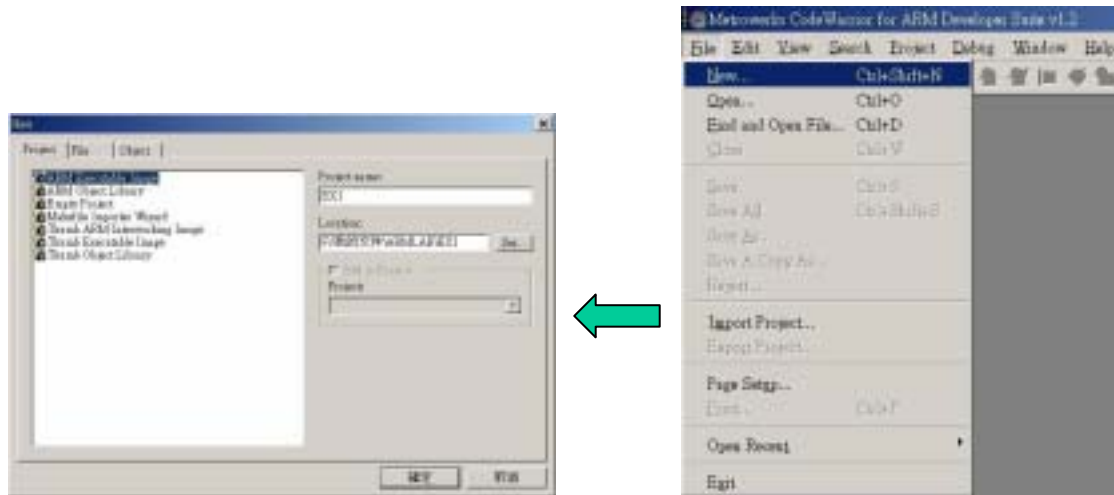

Figure 3 New dialog box
2. Select **File** → **New** to create a new project (Figure 3).
- (1) Select ARM Executable Image under the Project tab.
- (2) Type the project name, EX1 for example. You can see the result in Figure 3.
- (3) Specify the project path.